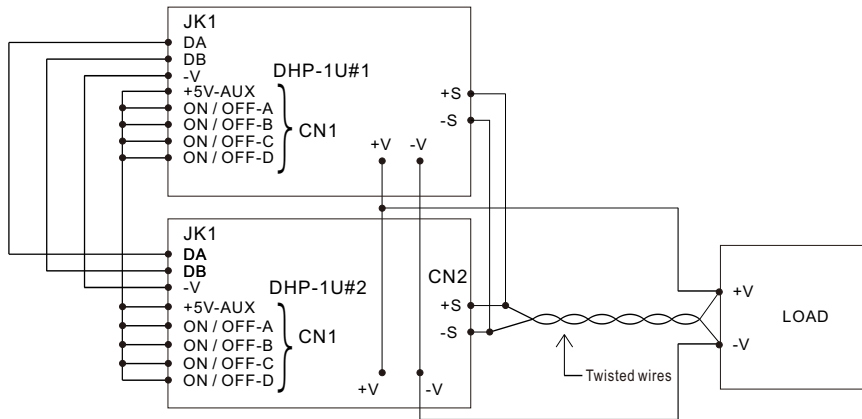

Figure 3-8 Configuration of two rack shelf units in parallel
- ⊙ Configure rack shelf units in parallel before connecting to the load. Do not connect rack shelf units to the load separately. Refer to Figure 3-8
- ⊙ Control singles of DA, DB and -V should also be connected in parallel. (Refer to Figure 3.8).
- ⊙ Use twisted wires for the wiring of +S and -S, the twisted wires should not touch the load wires to avoid interference. Refer to Figure 3-8.